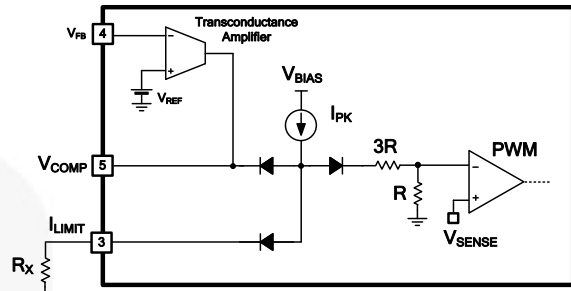

Figure 29. Current Limit Adjustment
As shown in Figure 29, the inverting input voltage of a PWM comparator that determines pulse-by-pulse current limit level is generated by the internal resistor  $R$  and current  $I_{PK}$  with a maximum value of  $50 \mu A$ . When the external resistor  $R_X$  is connected between  $I_{LIMIT}$  and  $GND$ ,  $I_{PK}$  current can be adjusted because the added  $R_X$  will be configured with internal resistor ( $3R+R$ ) with total  $46 k\Omega$  in parallel and it will flow inversely proportional to  $R_X$  value connected. For example, if no resistor is connected, pulse-by-pulse current limit for MOSFET switching current will be the maximum level (300 mA). On the other hand, the minimum level can be set down to 70 mA by the  $R_X$  value that can be got from following shown in equation (1). Figure 30 shows the adjusted current limit according to the  $R_X$ .